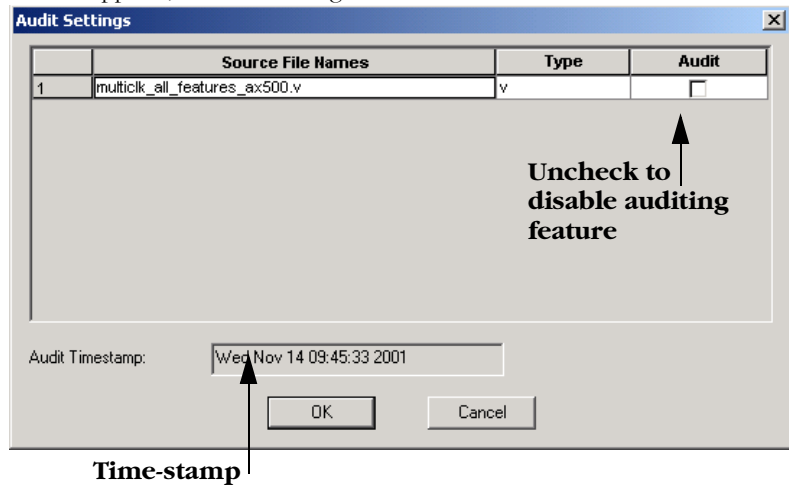

Figure 7-13. Update Audit Source Files Dialog Box
1. **From the File menu, click *Audit Settings*.** The Audit Settings dialog box appears, as shown in Figure 7-13.